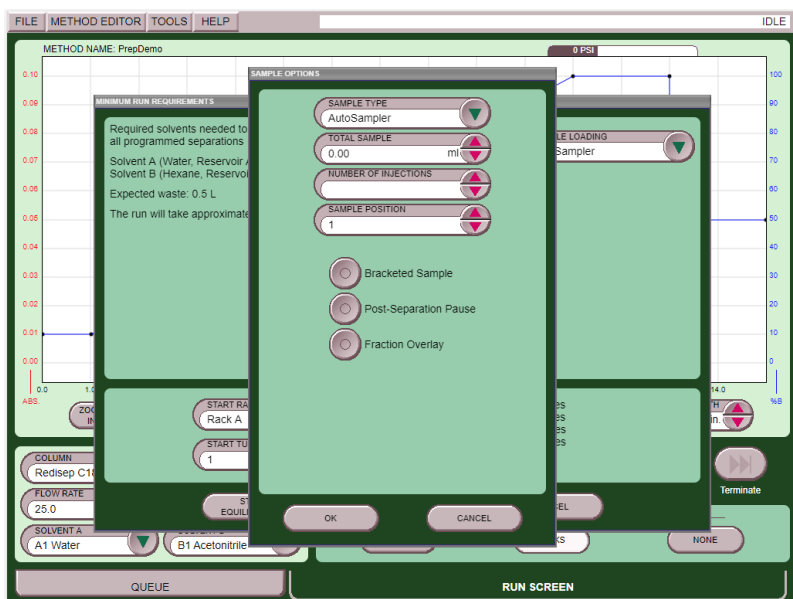

Figure 3-2 Selecting the sample volume and number of injections
4. In the dialogue box, enter the total sample volume and the number of injections (Figure 3-2).